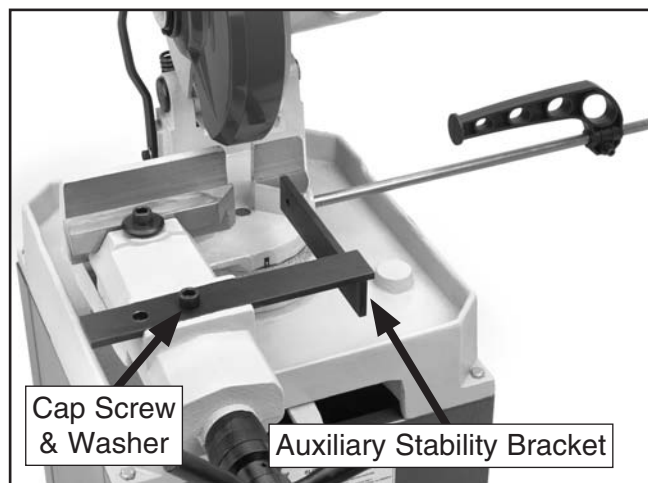

Figure 28. Auxiliary stability bracket.
2. Loosen and remove the cap screw and washer shown in **Figure 28**.